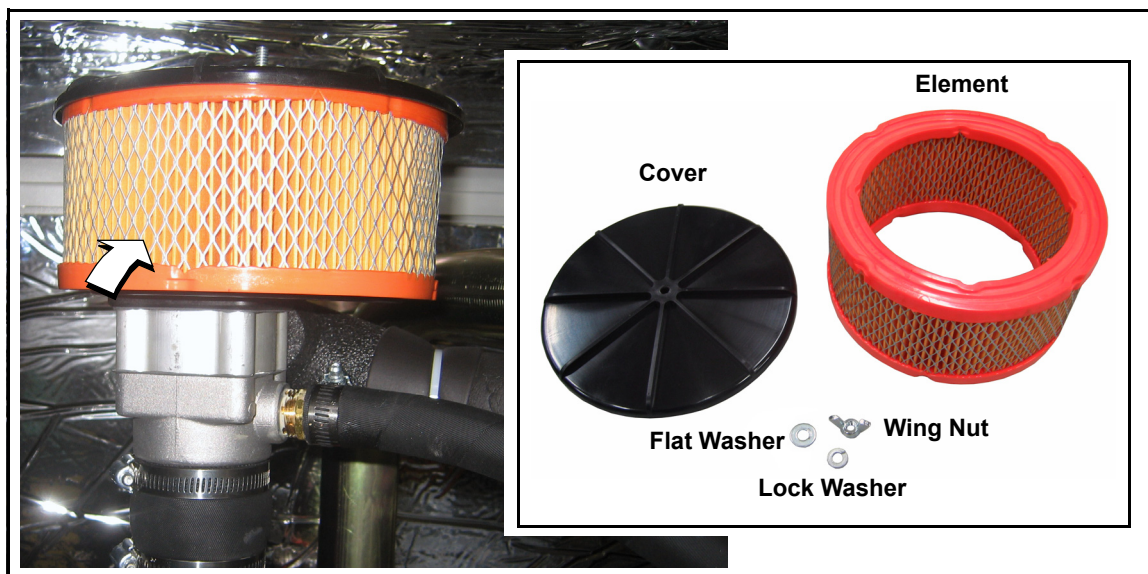

Figure 5-13. Air Cleaner Cover and Filter Element
1. Remove wing nut, lock washer and flat washer from threaded rod to release air cleaner cover. See Figure 5-13